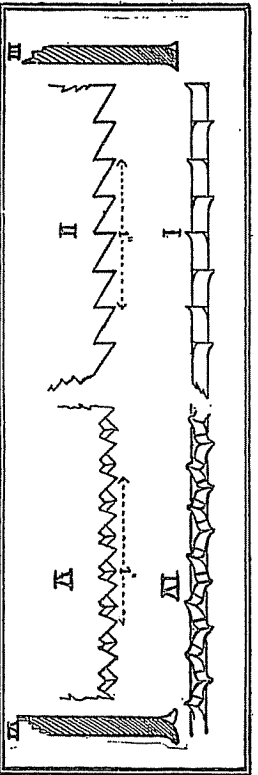

Fig. 13
**RIP-SAWS.** The object of the large saw is to cut with the grain; it should not be used to cut across the grain as it tears, leaving a jagged surface. (See Fig. 13, I, II, III.) The teeth on the large saw are filed to a sharp edge which acts like a chisel in that it removes small particles from the ends of the wood fibers.
**CROSS-CUT SAW.** On a cross-cut saw the teeth are filed to points. (See Fig. 13, IV, V, VI.) A cross-cut saw should never be used to rip boards, because it works slowly (there being no chisel action to cut the fiber away like it does in the rip-saw). It is best always to plane a board after rip-sawing it, because it is apt to be ragged. In starting the cut with a cross-cut saw, saw lightly; that is, hold the saw freely in the right hand. The left thumb should be used as a guide. After you are well started, then the whole weight of the saw can be applied. Do not saw with a furious stroke, but with a natural, easy, light stroke. Sometimes it occurs that the saw will run away from the guide line. By short strokes at the point of the saw, then twisting the blade in the right direction, the saw can be brought back to the line.